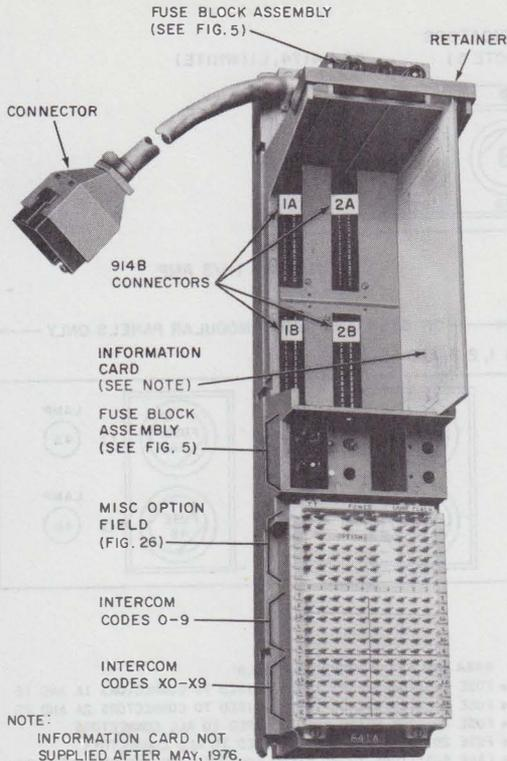

Fig. 3—641A Modular Panel
D. 641A Modular Panel (Fig. 3)
- Terminal field (yellow) utilized by all connectors for a common dial intercom service (*NOT* related to individual connectors by quadrants as on the 620A (MD), 620A2, and 642A panel).